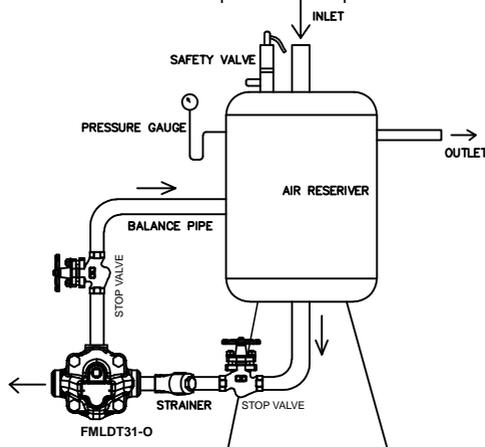

Figure 3 : FMLDT31-O installation with balance line arrangement
(Refer to Figure 3) A tapping is provided at the top of the Forbes Marshall Liquid Drain Trap to fit the balancing line. When there is high load, there are chances of the trap getting air locked. The balancing line is connected back to the upstream of the Liquid Drain Trap so that the air collected inside the Liquid Drain Trap is displaced back in the system.
5. Installation Guidelines: (Refer to Figure 3)